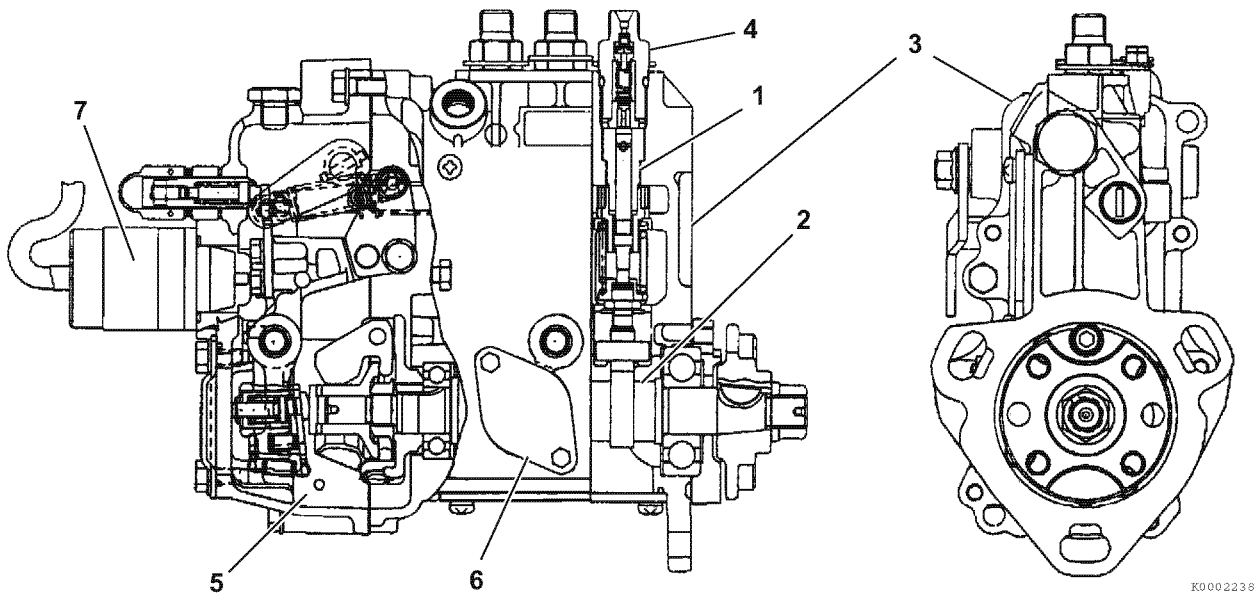

Figure 7-1
The YANMAR ML and MC fuel injection pump is an in-line type pump which consists of a fuel supply plunger (**Figure 7-1, (1)**) for each cylinder, a camshaft (**Figure 7-1, (2)**), and a pump housing (**Figure 7-1, (3)**). A delivery valve (**Figure 7-1, (4)**) connects to a high-pressure fuel line for each cylinder. The fuel injection pump housing contains a governor (**Figure 7-1, (5)**).
Fuel from the fuel tank to the fuel injection pump is delivered by a low-pressure electric fuel pump. On a few special models, a mechanical fuel pump is used instead of an electric pump. The mechanical fuel pump is mounted to the fuel injection pump housing in place of the cover plate (**Figure 7-1, (6)**).
The ML and MC fuel injection pumps are equipped with a stop solenoid (**Figure 7-1, (7)**) that controls the fuel flow inside the fuel injection pump.